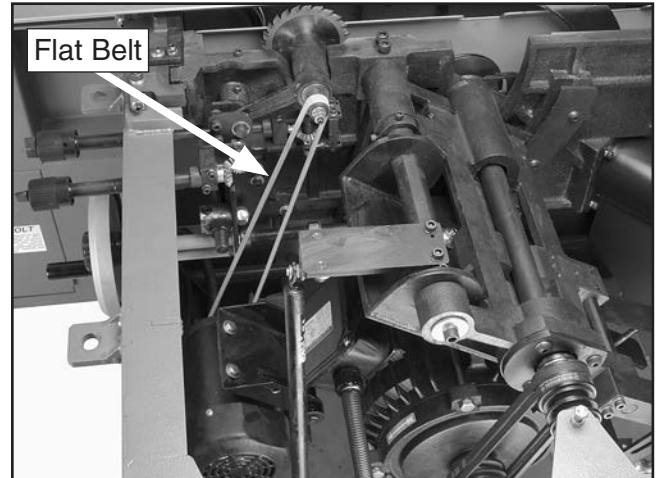

Figure 41. Flat belt installed on scoring motor and arbor pulley (table removed for clarity).
27. Install the flat belt on the scoring motor and arbor pulley as shown in **Figure 41**.